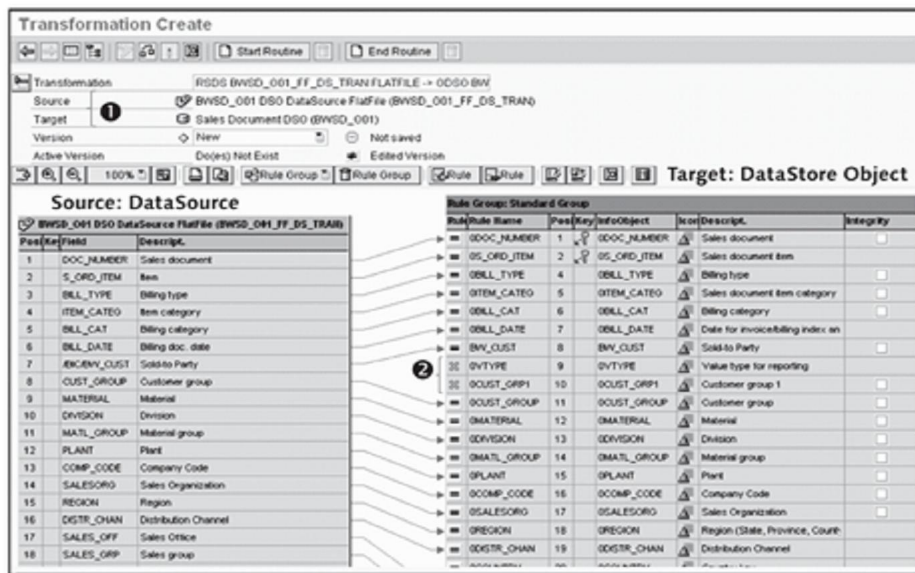

Figure 7.55 Creating a Direct Assignment Transformation
This results in the Transformation Create screen shown in Figure 7.55, which allows you to create a transformation using drag and drop. As shown in ❶ of Figure 7.55, the source and target object are shown on the left and right, respectively. SAP NetWeaver BW automatically matches the field of the DataSource to the InfoObject and proposes the transformation based on metadata available in the system. This is a direct assignment transformation, meaning that the data from the DataSource is passed to the target InfoObject without any modification of values. If required, you can change this proposed transformation.
There are two InfoObjects, OVTYPE and OCUST_GRP1, which have not had any transformation proposed by the system (❷ of Figure 7.55). The reason for this is that there are no fields in the DataSource that map to these two InfoObjects (as shown earlier in Table 7.4). As such, we must derive the value for these two InfoObjects using the formula and read master data transfer types (recall our discussion of the different types of transformation in Section 7.1.3, Transformations).